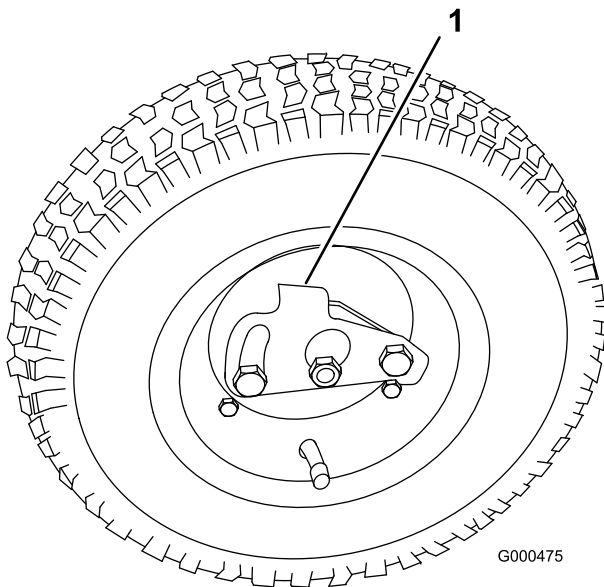

Figure 18
2. Press the wheel locking clip toward the center of the wheel and slide the wheel onto the hex shaft (Figure 18).